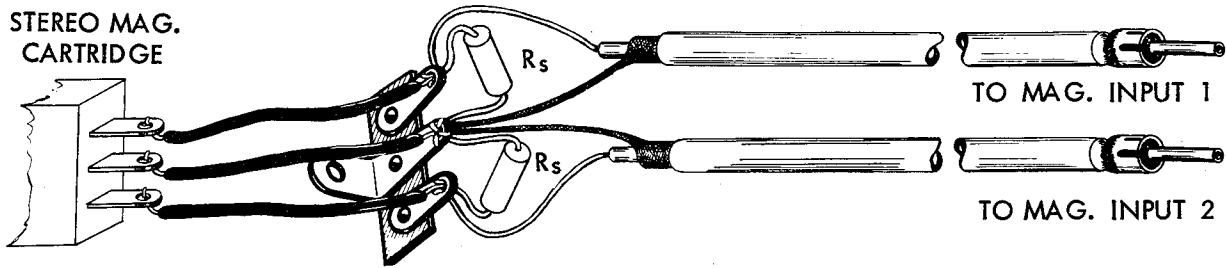

FIG. 3
1) **MAG. PHONO 1, MAG. PHONO 2:** These inputs are intended for the two outputs of a stereo magnetic cartridge, or for a stereo ceramic cartridge with adaptors. The correct method for wiring a three terminal cartridge is shown in Fig. 3. If the cartridge is a four terminal type, short the two inside terminals of the cartridge together and treat it exactly as if it were the single center terminal shown in Fig. 3. The loading presented to each output of the cartridge by each MAG. PHONO input is 100,000 ohms. If a lower loading resistance is required by the particular cartridge used, connect a shunt resistor of appropriate value from each outside terminal of the cartridge to the center (common) terminal. This can be done actually by mounting a 3-post terminal strip on the underside of the phonograph mounting board at a point near the lead break-out from the pickup arm. These shunt resistors are then wired to this terminal strip as shown in Fig. 3. The value of each of the two shunt resistors ( $R_s$ ) can be determined from the desired loading resistance ( $R_l$ ) by this formula